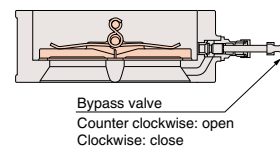

Fig.8
- If the fluid remaining in the pipe is to escape when the pump is stopped, operate the bypass valve manually. (Fig. 8)